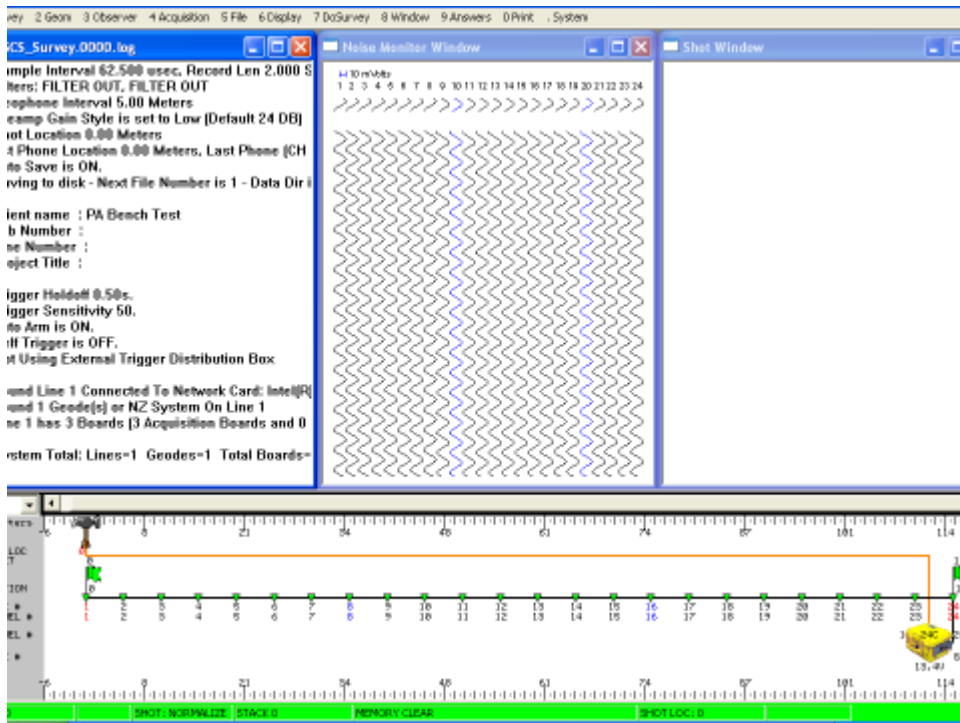

Figure 6. Appearance of Screen just prior to Shooting and Acquiring Data
- You should be left with a setup that looks similar to that shown in Figure 6. At this point you are ready to shoot and acquire data.